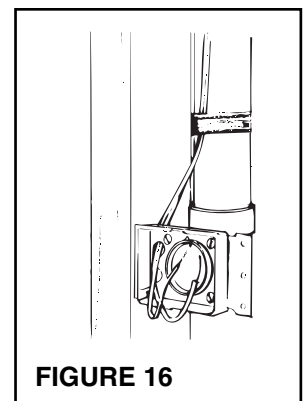

FIGURE 16
14. Refer to Figure 16. Tape wire to tubing to hold in place and insert through hole in inlet bracket.